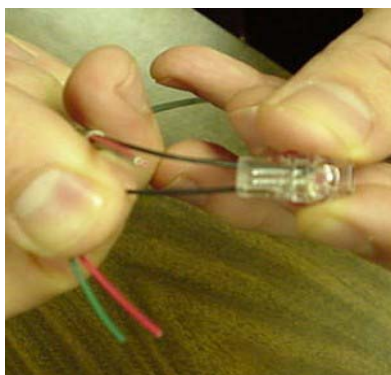

Figure 2 Seating Connector Wires
- 2 Take a non-stripped, black wire from the pigtail and a non-stripped, black wire from receptacle/MIU and insert wires into the Scotchlok connector until fully seated in connector. (See Figure 2.)